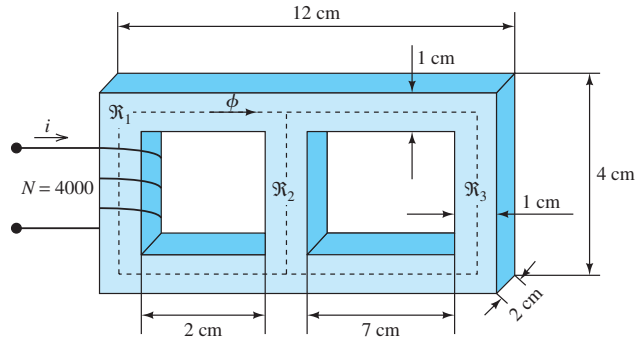

FIGURE P12.19 Magnetic circuit with two loops.
12.19 (H)* Find the current, i , drawn by the magnetic circuit in Figure P12.19 if the flux $\phi = 1$ mWb and $\mu_r = 4000$.